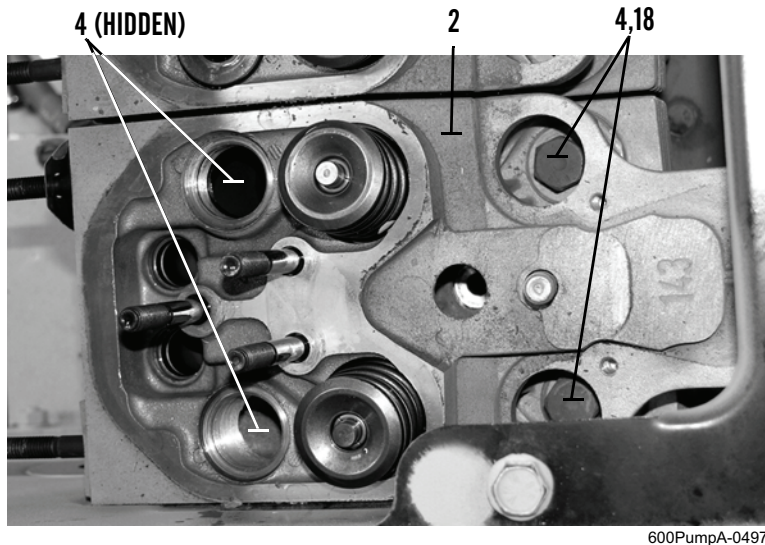

Figure 8. Cylinder Head Bolt and Washers.
9. Remove four bolts (Figure 8, Item 4) and two washers (Figure 8, Item 18) from cylinder head (Figure 8, Item 2).